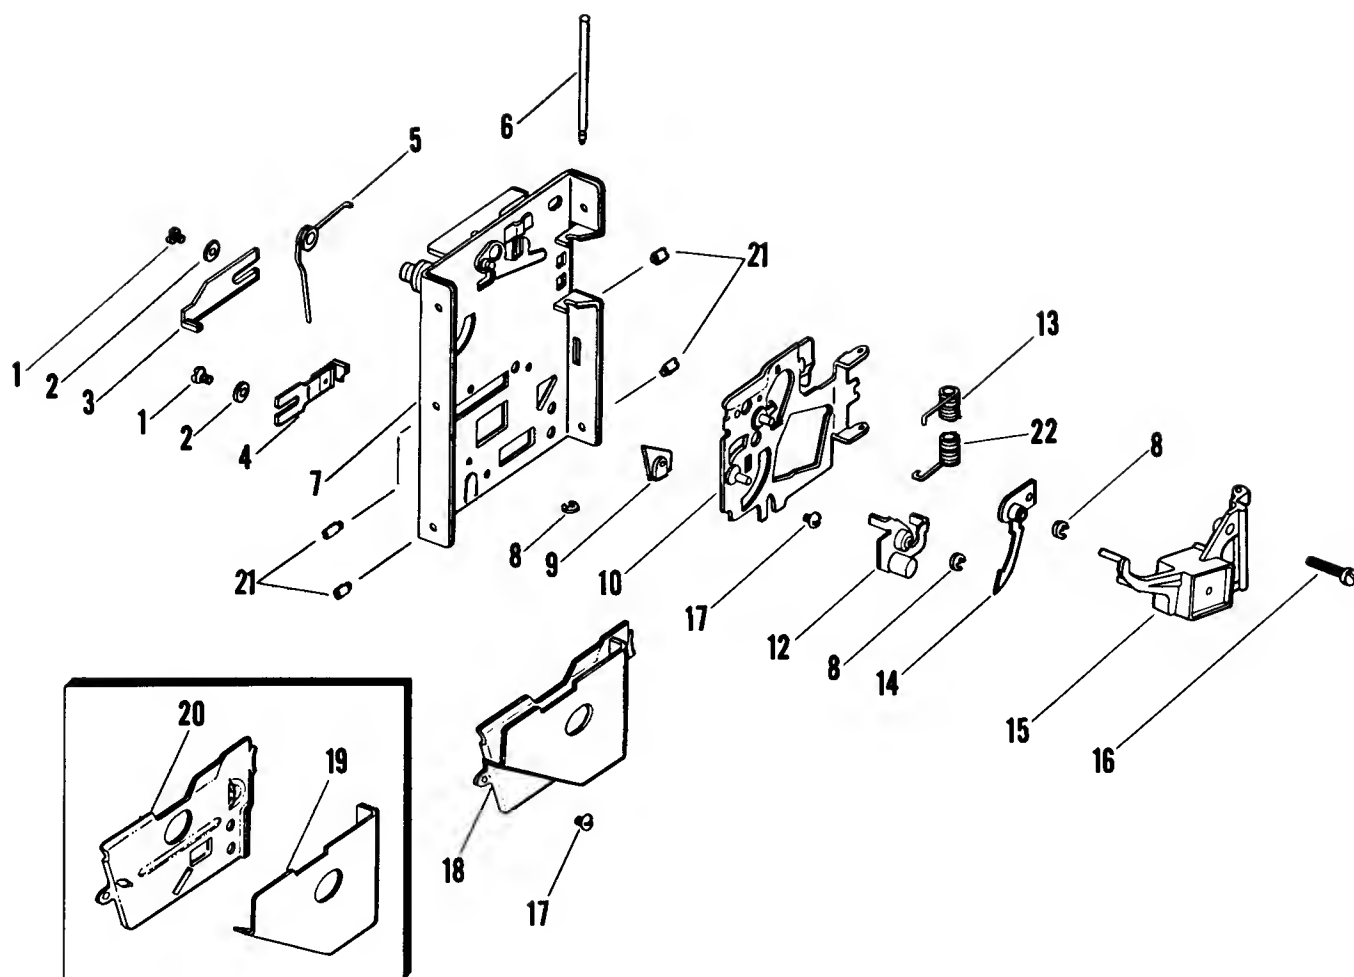

FIGURE 9 COIN ACCEPTOR EXPLODED VIEW
Most coin acceptor problems stem from improper adjustment of the magnet gate assembly (Figure 9). A gate which is adjusted with too large a gap may pass both genuine and counterfeit coins. Adjustment in the other extreme results in rejection of some or all the coins. To compound this problem, the screw which adjusts the magnet gate has a tendency to work loose over a period of time resulting in a gradual narrowing of the gate. At first, only the thickest (i.e. the newest) coins are rejected. As time passes, more and more coins are rejected until finally a complaint is made and the machine serviced. This particular problem is dealt with by first following the adjustment procedure outlined in the following pages and then by permanently fixing the troublesome screw in place with a drop of glue. If the mechanism is properly adjusted at this time, it should be years before the acceptor has worn to the extent where it will require another adjustment.
The *transfer cradle* (#9 in Fig. 9) is used to test both the size and the weight of the coin. The quarter must first pivot an *undersize lever* (14) to unlock the transfer cradle. Undersize "quarters" will fail to unlock the transfer cradle and can be returned by actuating the *wiper operating lever*. Oversize diameter coins will fail to pass between the transfer cradle and the wiper and can be returned by operating the wiper lever. Coins that are oversize in thickness will fail to pass between the *magnet gate* (15) and the *main channel* (7) and will have to be dislodged by actuating the wiper operating lever. Underweight coins will fail to overcome the transfer cradle *counterweight* and can be returned by operating the wiper lever.